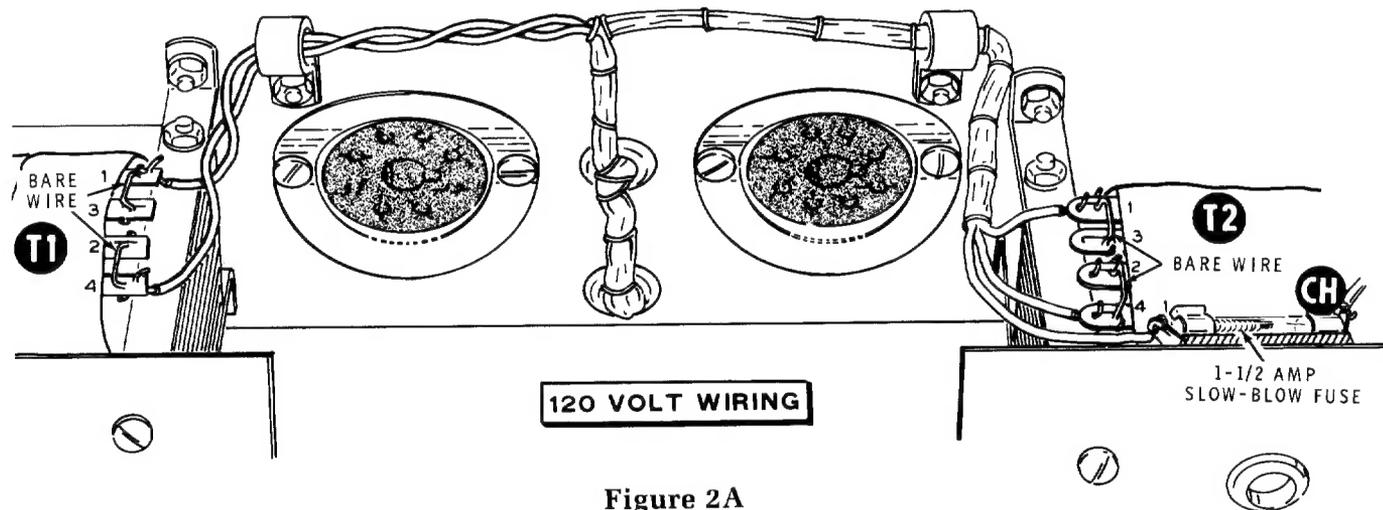

Figure 2A
1. Refer to Figure 2A and remove the two jumper wires from the terminals located on transformer T1 and on transformer T2.